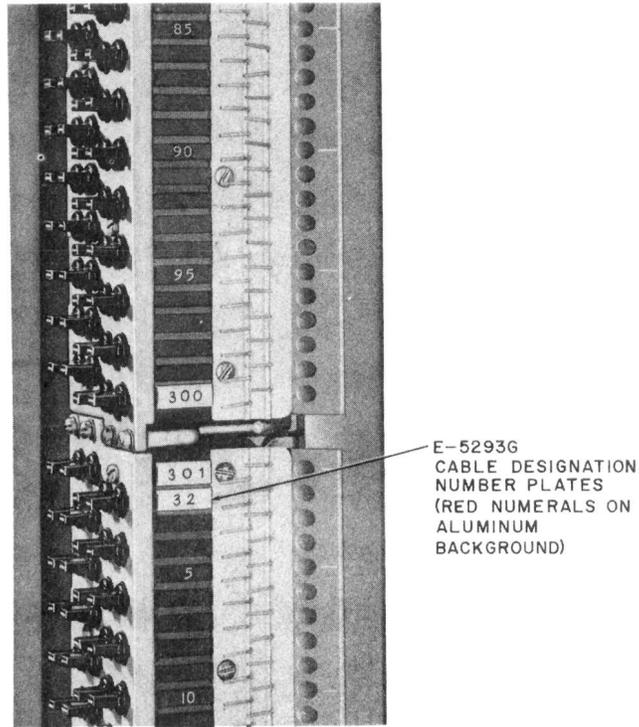

Fig. 5—Cable Designation Number Plate on 300-Type Connector
- 2.13** Cable numbers shall be placed on the raised rib below the first numbered pair of each cable and also on the rib below the numbered pair at the top of each vertical. If an insulating guard is installed over the rib specified for the cable number, place the cable number on the next available rib below that position. The marking of a cable number is shown in Fig. 5.